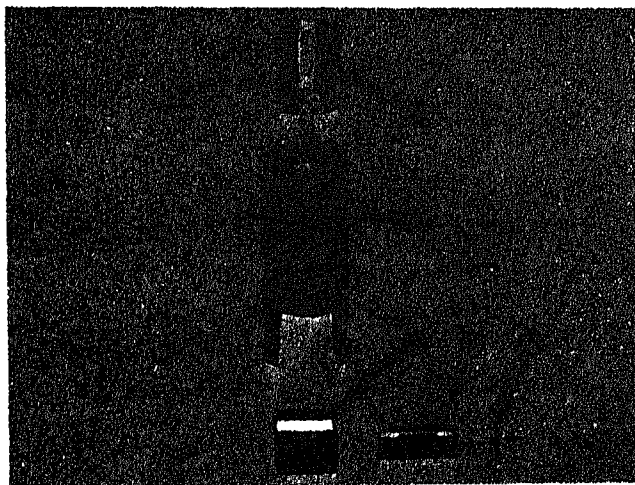
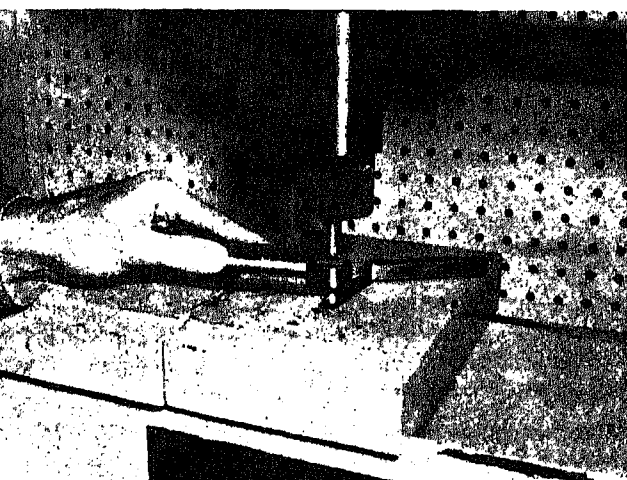

Fig. 4-1-1. Tappet exploded (sleeve-body-pin roller-wire)
Fig. 4-1-2. Installing tappet roller and pin
1. Place 0.006 in. [0.1524 mm] shim between tappet (2, Fig. 4-1-1) and side of roller (3) to prevent springing fork when removing roller; press on end of pin (4) that is not lock-wired (pinned).
2. Discard pin (4) and lockwire (5).
1. Insert 0.006 in. [0.1524 mm] shim between side of roller (3, Fig. 4-1-1) and tappet (2); press pin (4) through tappet and roller with lockwire (5) in pin. Make sure lockwire seats in groove of tappet. See Fig. 4-1-2.
2. Install steel sleeve (1, Fig. 4-1-1) in tappet by compressing and aligning guide slot in sleeve with slot in tappet body.